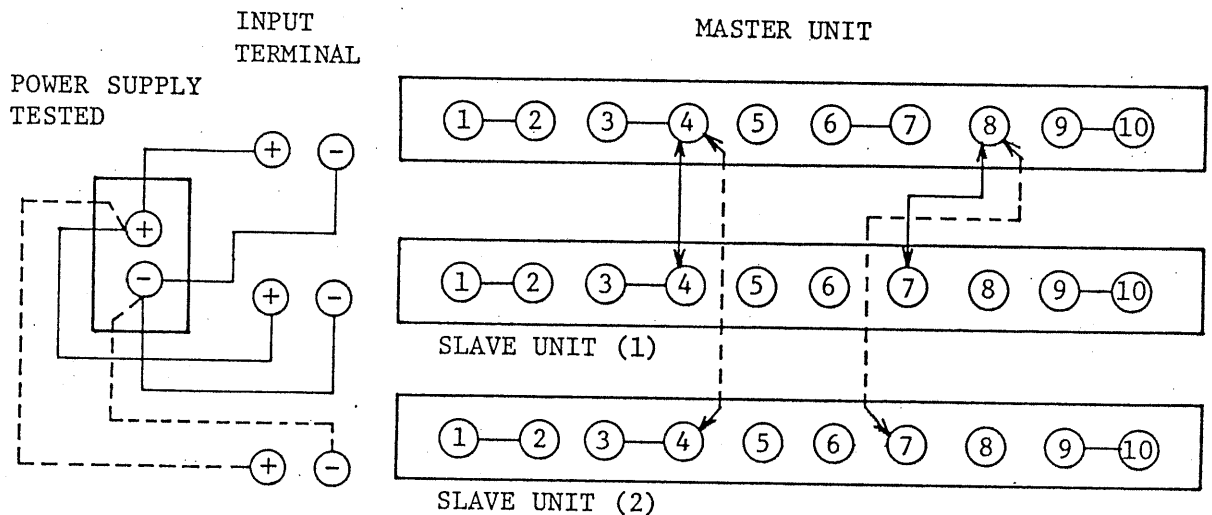

Figure 11
- (1) To operate three units in parallel, connect the terminals of the rear panels as shown in Figure 11. (To operate two units in parallel, eliminate the connections indicated with the dotted lines.)
- * Be sure to connect the lead wires to the PLZ50-50 units directly from the power source as shown in Figure 11.